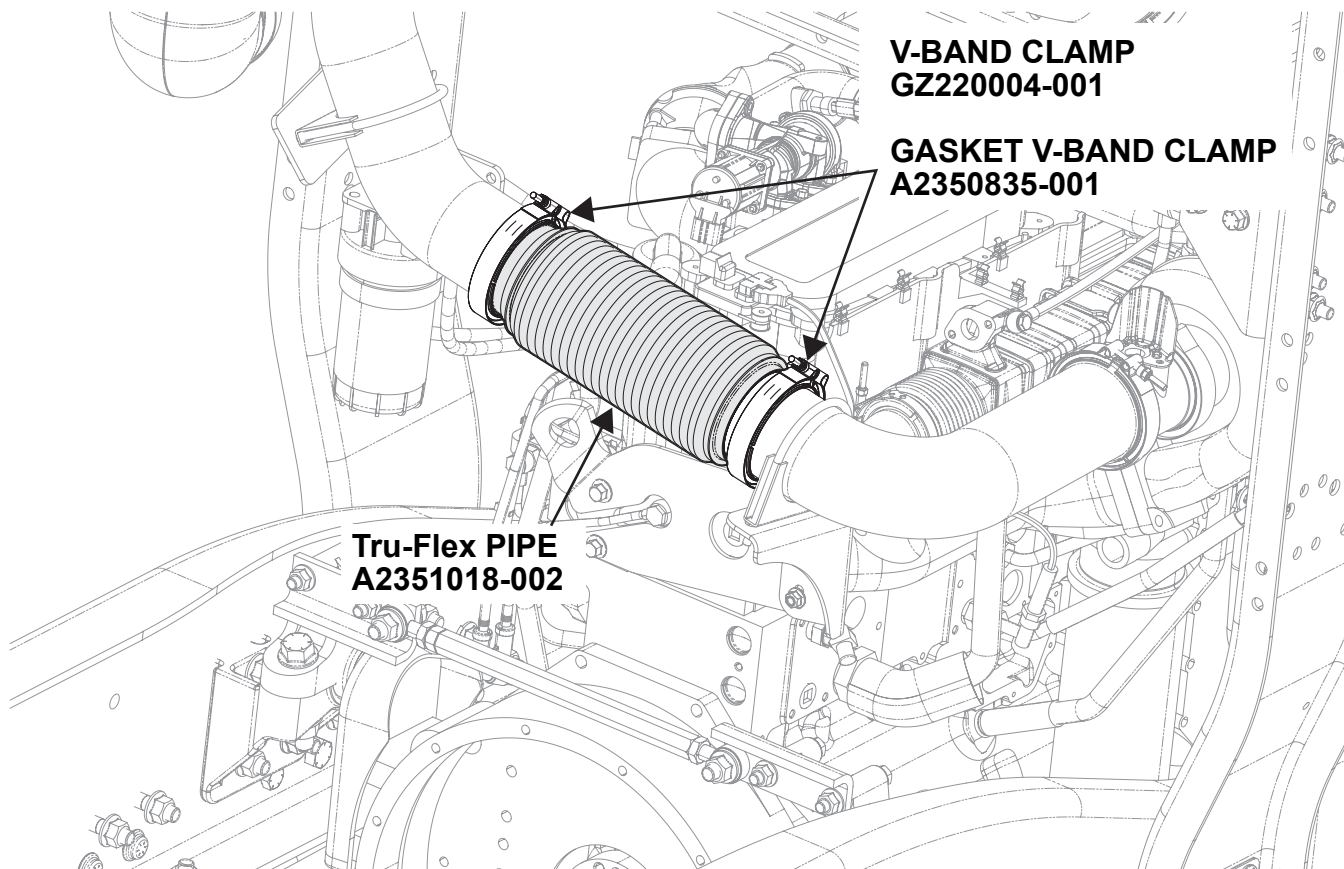

Figure 1
3. Install the new gaskets (A2350835-001) on each end of the new Tru-Flex pipe (A2351018-002) (see *Figure 1*).
4. Install the new Tru-Flex pipe (with gaskets) to the exhaust pipe (see *Figure 1*).
5. Install the new V-Band clamps (GZ220004-001) and tighten to 12 Lbs.-Ft. (16 N-m) of torque (see *Figure 1*).